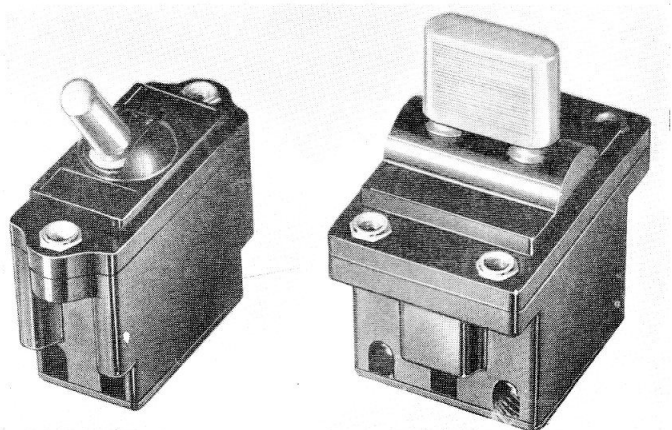

Fig. 1. Typical single and double-pole switches
2. A typical switch of each group is illustrated in fig. 1. The mechanism of each is identical, the double-pole version consisting essentially of two single-pole switches in one moulded case, with the two operating levers strapped together. The 3-way single-pole switches are essentially double-pole switches with an internal link (Appendix 1, fig. 1).